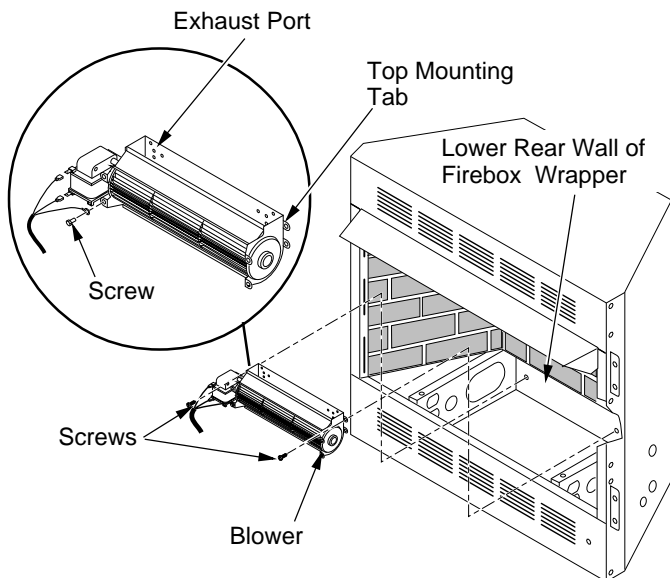

Figure 9 - Mounting Blower to Firebox
4. Attach green ground wire from power cord to blower housing using screw provided (see Figure 9). Tighten screws securely.
5. Place the blower against the lower rear wall of the firebox outer wrapper with the exhaust port directed upward. Align the holes in top mounting tabs of blower with holes in wall of wrapper (see Figure 9). Using 2 screws provided, mount blower and tighten screws securely.